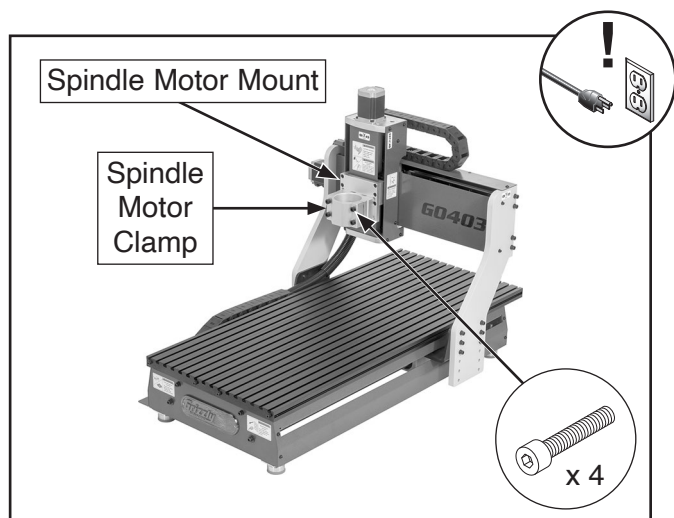

Figure 3. Location of spindle motor clamp cap screws on Model G0403 spindle motor mount.
2. Remove (4) cap screws and spindle motor clamp on Model G0403 spindle motor mount (see **Figure 3**).